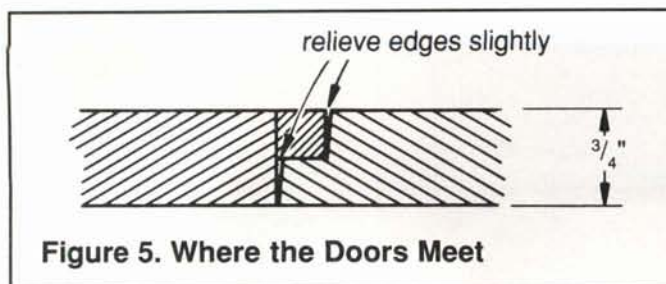

Figure 5. Where the Doors Meet
The doors (E) come next. Lightly joint the edges you have designated to be the meeting edges. Rip the panels to equal widths so that the overall width of the two pieces fits into the door rabbet on the case. Cut them to a length that is $\frac{3}{64}$ " shorter than the height of the door opening. Be sure the case is absolutely square when you do this. Cut a $\frac{3}{8}$ " X $\frac{3}{8}$ " rabbet on the inner meeting corner of the right-hand door as shown in Figure 5. Now cut a $\frac{3}{8}$ " X $\frac{3}{8}$ " strip and glue it to the inner meeting corner of the left-hand door so that it fits into the rabbet you have just cut in the right-hand door. The reason for doing it this way instead of
Now that the basic case is in finished form you can rehang the doors and fit them properly. Screw the bottom hinge to the door and the top hinge to the case. Now with the hinges open ninety degrees, tilt the bottom hinge into its mortise on the case and slide the top hinge into its mortise on the door. Run the screws into the top hinge; then screw the bottom hinge to the case. You should slightly relieve the meeting edges of the right-hand door as shown in Figure 5. Take off the left-hand door to cut the finger recess as shown on the drawing. You will also want to install a 1/4" bullet catch under the right-hand door. Place it about 1" from the meeting edge.